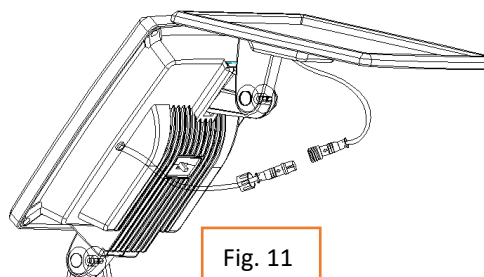

Fig. 11
- b. Attach Part A to Part C and secure with screw cap (Part H). (**Fig. 11**)
- e. Connect the solar panel and the lamp head cords together and secure using the screw connector. (**Fig. 11**)